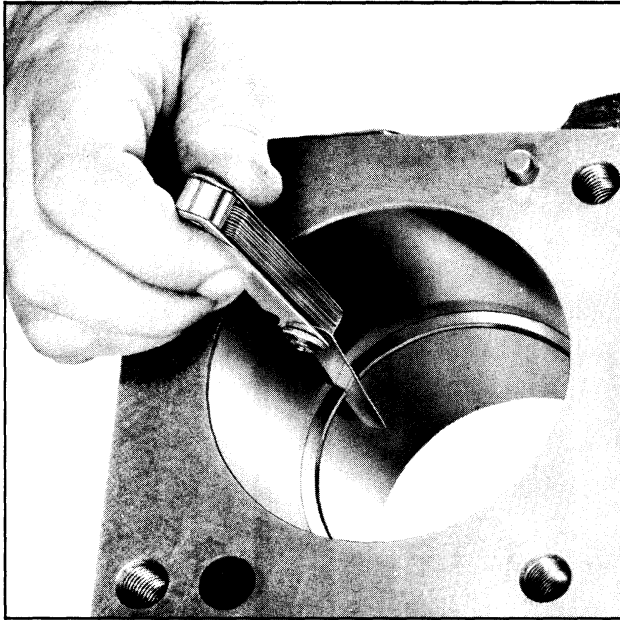

Fig. 6-71 Checking Ring Gap with Feeler Gauge
3. Measure gap between ends of ring with feeler gauge (Fig. 6-71). Gaps should be as follows: